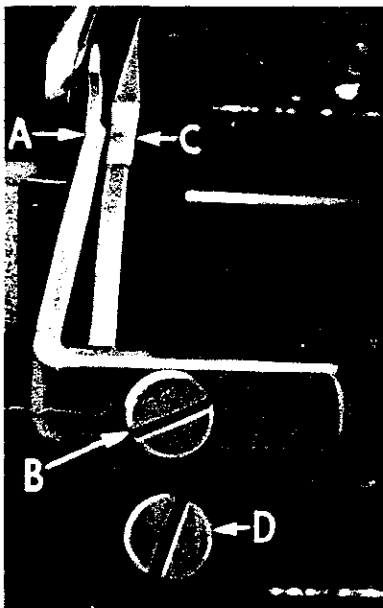

Fig. 5
Set rear needle guard (A, Fig. 5) as high as possible, without interfering with either lower looper or movement of lower knife holder, but still in position to deflect needles forward $.002$ -. $.004$ inch. Screw (B) is used to set rear needle guard. Make sure there is no interference between rear needle guard and lower looper.
Assemble front needle guard (C, Fig. 5). When lower looper is springing needles off back guard, set front needle guard as closely as possible to needles without touching. Use screw (D) to adjust and set front needle guard. After setting, make sure there is no interference between needle guards and differential feed dog.